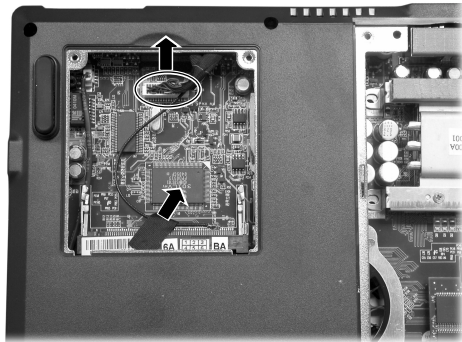

Figure 2-18 Disconnect the LCD cable
4. Disconnect the LCD cable from the system board and detach the antenna. (Figure 2-18)